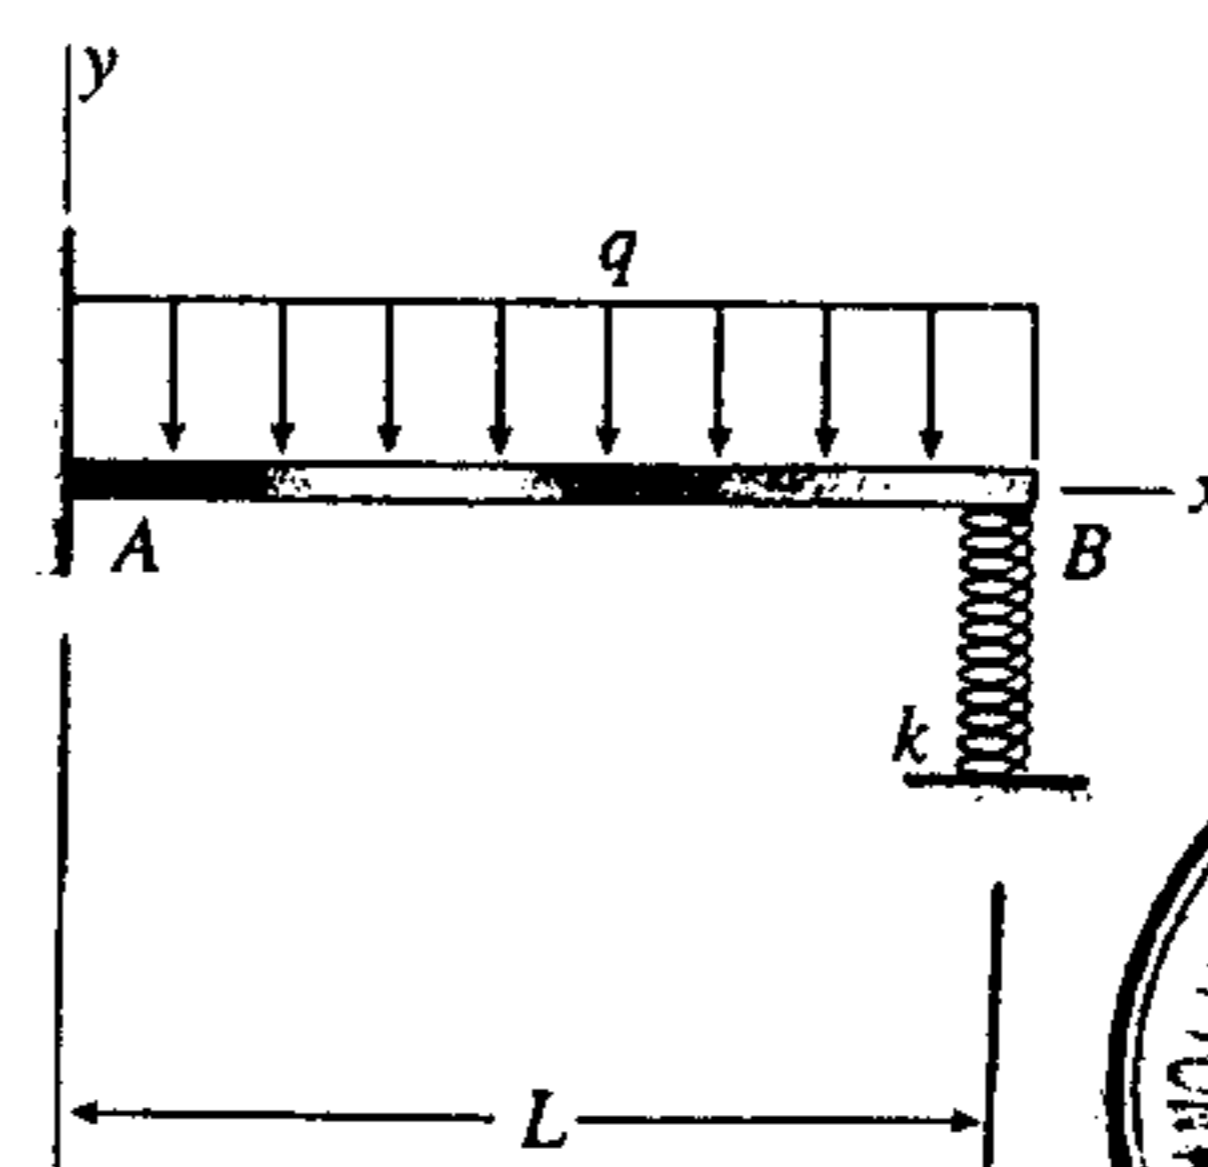

Fig. 4
4. A cantilever beam AB of length  $L$  has a fixed support at A and a spring support at B as shown in Figure 4. The spring behaves in a linearly elastic manner with stiffness  $k$ . If a uniform load of intensity  $q$  acts on the beam, what is the downward displacement  $\delta_B$  of end B of the beam? (25%)